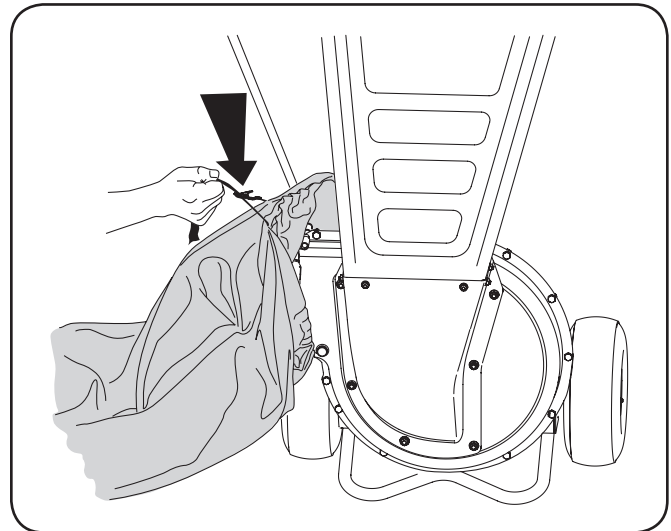

Figure 5-3
2. Squeeze the locking buckle to release the bag's drawstrap before loosening it from the chute deflector. See Figure 5-3.